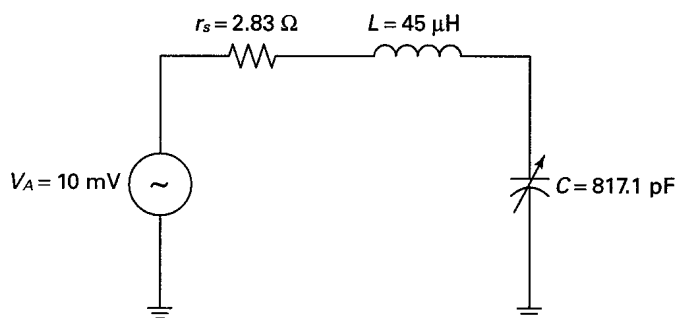

Fig. 1-23
- 1.35** Refer to Fig. 1-23. Calculate the following: (a)  $f_0$ , (b)  $X_L$  and  $X_C$  at  $f_0$ , (c)  $Z_T$  at  $f_0$ , (d)  $I$  at  $f_0$ , (e)  $Q$ , (f)  $V_L$  and  $V_C$  at  $f_0$ , (g) BW, (h)  $f_1$  and  $f_2$  respectively.
- 1.36** Refer to Fig. 1-23. Calculate the following: (a)  $Z_T$  at  $f_1$  and  $f_2$ , (b)  $I$  at  $f_1$  and  $f_2$ , (c)  $\Theta_Z$  at  $f_1$  and  $f_2$  respectively, (d) BW if  $L$  is halved and  $C$  is doubled.